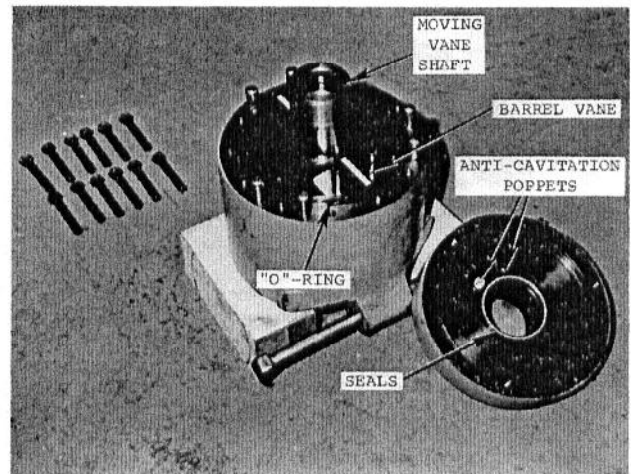

Fig. 47 — Top Cover Removed Exposing Interior of Cylinder
3. Carefully remove top cover then remove large "O"-ring from the barrel ... see Fig. 47.